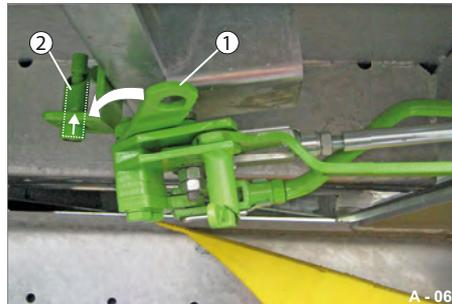

Fig. 59 Fastening unlocking system
- Rotate the retainer plate (Fig. 59/1) to locking pin 2 (Fig. 59/2).